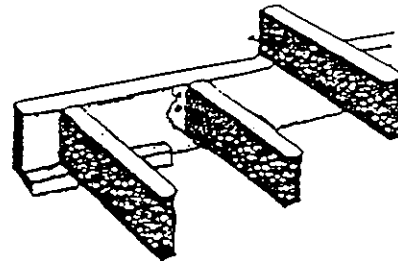

FIG. 2
3. A minimum 1 1/2" of bearing shall be provided for both ends of joists. (i.e. ledger attached to rim joist; joist hanger; direct bearing) (SEE FIG. 2)